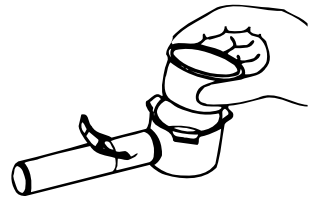

FIGURE 1
1. Place the filter basket in the filter holder. (See Figure 1)